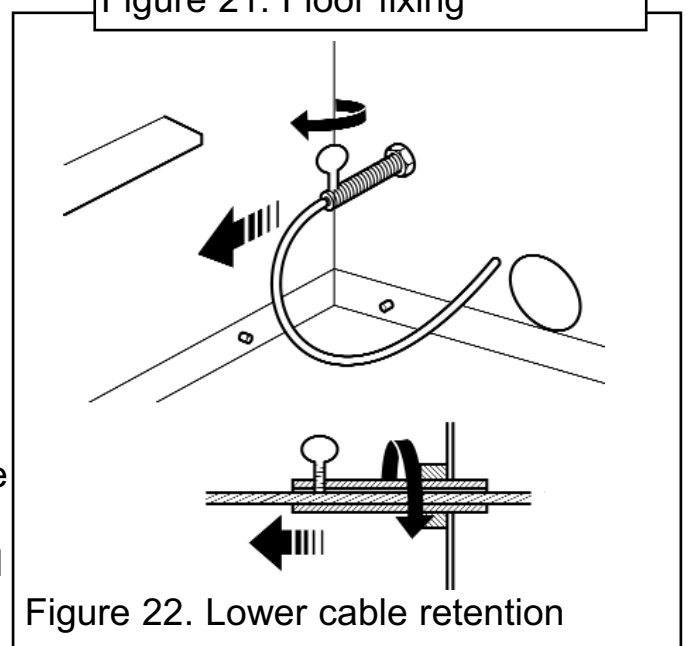

Figure 22. Lower cable retention
11. Pull each cable taut. Push the cable retainers hard up against the back panel. The end of the cable adjuster will pass into the hole. Tighten the screws in the retainers so that they clamp the cables in position. Apply tension to the cables by turning the hexagonal adjusters by hand (See figure 22).